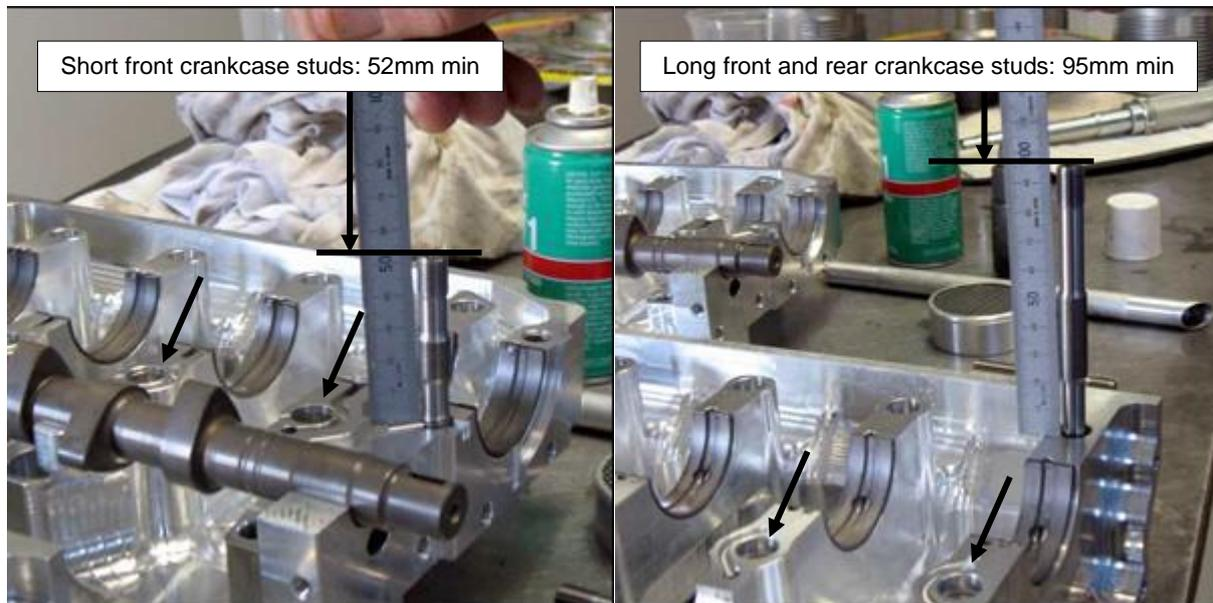

Figure 123 – Crankcase Assembly Preparation
- Lubricate and fit the O rings to the bottom main bearing stud holes (arrowed in Figure 123 - left) and then fit the front and rear crankcase studs using Loctite 263 Thread locker: clean and prime the threads first using Loctite 7471 cure accelerator. Use a collet type stud tool to screw the 2 short front crankcase studs to a free length of 52mm and the 2 long front and the 2 rear crankcase studs to a free length of 95mm as shown in Figure 123. Note: Later longer studs are positioned 54mm and 97mm free length above the crankcase join.